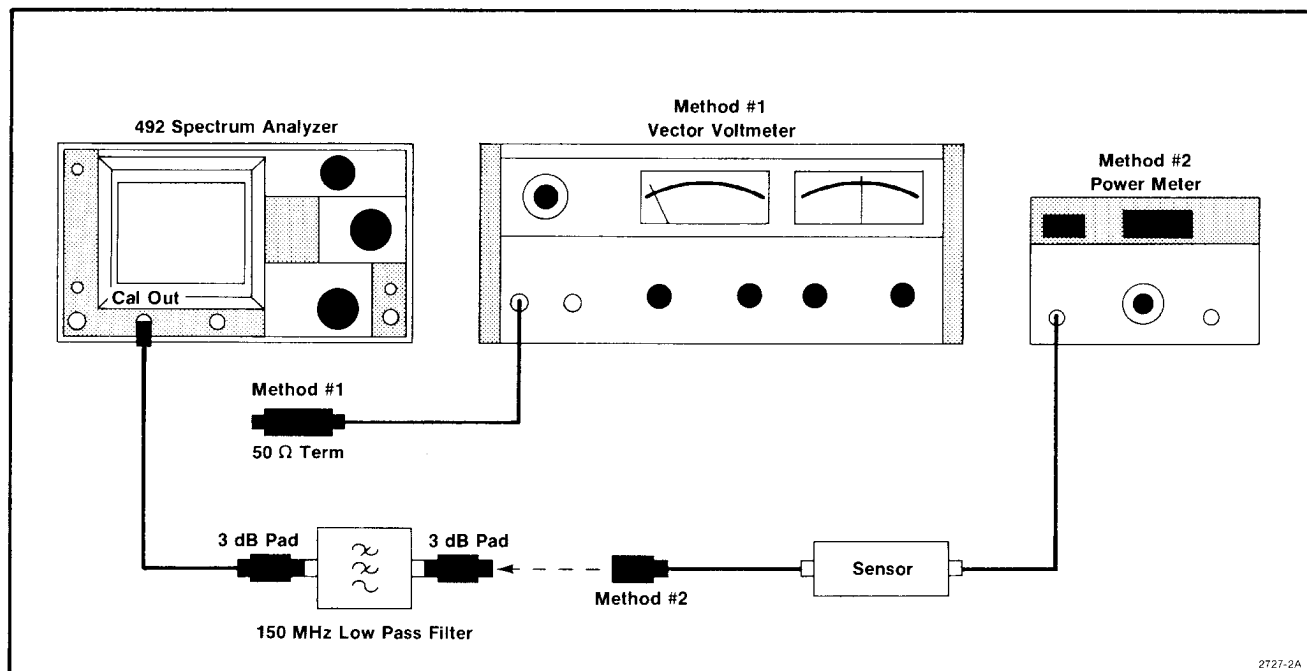

Fig. 3-2. Test equipment setup showing two methods that check calibrator output level.
- a. Terminate the voltmeter probe with a 50 Ω feedthrough termination and then connect the terminated probe to the 492/492P CAL OUT connector (Fig. 3-2).
- a. Test equipment setup is shown in Fig. 3-2.